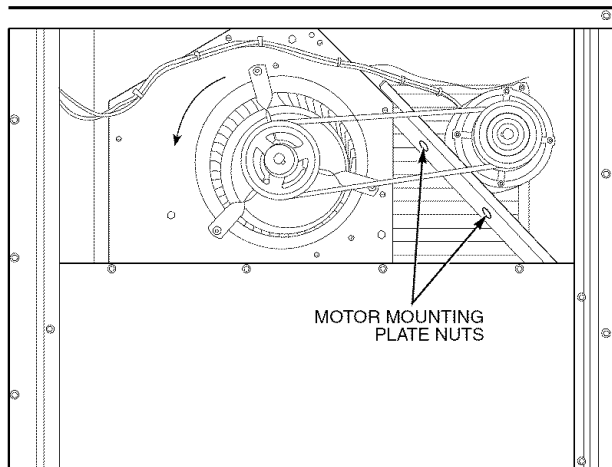

Fig. 38 — Typical Belt-Drive Motor Mounting for Size 008 and 009
2. Loosen the belt by loosening the fan motor mounting nuts. See Fig. 38 and 39.
2. *Sizes 008 and 009* — Slide the motor mounting plate away from the fan scroll for proper belt tension ($1/2$ -in. deflection with 5 to 10 lb of force) and tighten the mounting nuts (see Fig. 38).